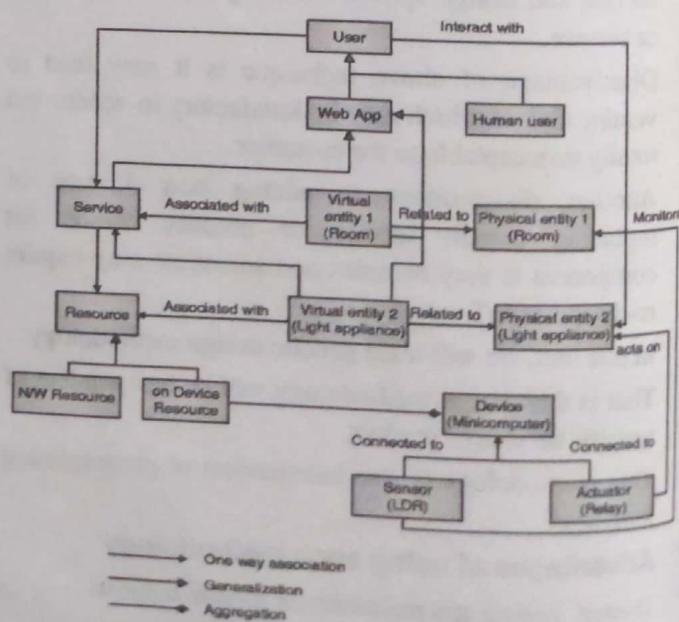

Fig. 2.2.3 : Domain model for IoT based home automation system
- Fig. 2.2.3 shows domain model for our example of home automation system. Main concepts, entities and objects in the domain model consist of physical entity, virtual entity devices, resources and services.